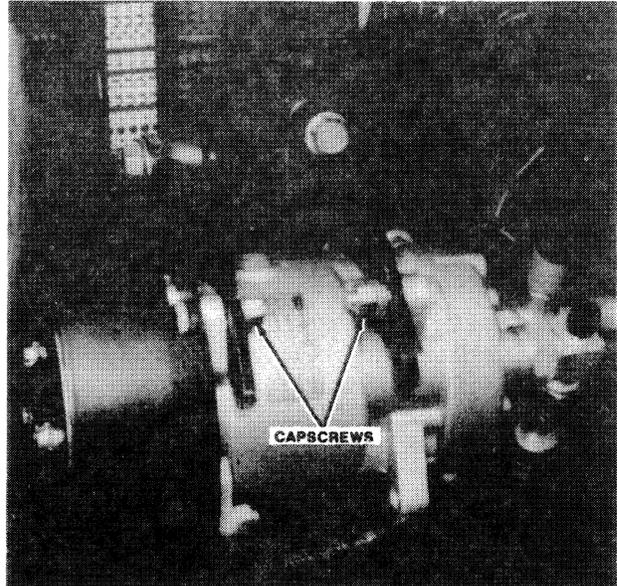

FIGURE 2-9: A/C Compressor Removal
- Loosen A/C compressor capscrews and remove drive belt. Remove compressor from mounting bracket with hoses still attached (Figure 2-9).
10. Install A/C compressor and drive belt (Figure 2-9). Tighten belt so deflection is 10 to 12 mm (3/8 to 1/2 in.).